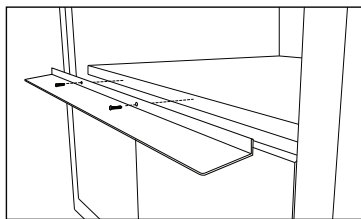

Figure 10
2. Install deflector as shown in Figures 10 and 11